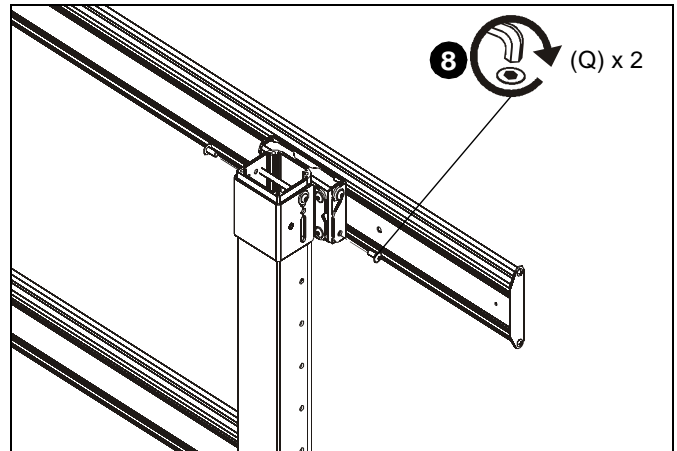

Figure 6
- Install two 5/16-18 x 3/4" button head flange screws (Q) into the lower holes on each quick connect base (H) to secure rails (D) to quick connect bases. (See Figure 6)
- Tighten all 5/16-18 x 3/4" button head flange screws (Q).